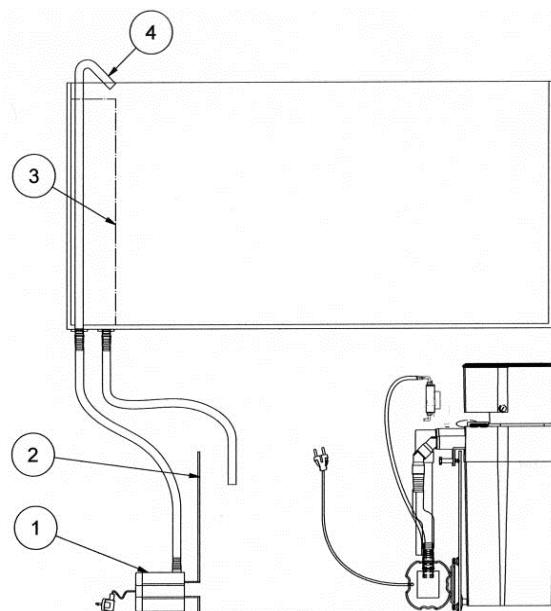

Fig. 4: Turboflotor Blue 3000, set up next to the filter tank
2. For use in the cabinet with a sump or under tank filter system (Fig. 4)
Set up: beside or inside the filter tank of a sump or under tank filter system (Fig. 4):
See the above hang-on procedures for installing the skimmer on the outside of the filter tank. It is attached to the frame of the filter tank. If the filter tank is not high enough, the skimmer is placed beside the tank. For the return flow, outflow boxes may be used. If the water level in the filter tank is very low or there is a shortage of space in the tank, the 90°-elbow fitting (Fig. 1, No. 12) may be connected to the outlet and the water will then be directed down to the water surface in the tank. This avoids splashing and reduces noise. The venturi pump is fixed inside the filter tank in such a way that it will not run dry and the length of the pressure tube has to be kept as short as possible (Fig. 4). The pump should be placed close to the water surface. To prevent the pump running dry, we recommend to use an automatic level controller (e. g. aquaniveau or Niveumat) to ensure replacement of evaporated water and to keep the water level in the filter constant.